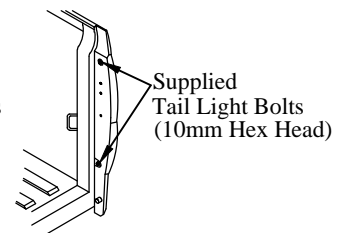

Figure 9: Replacement tail light bolts.
2. **Install** the M6 x 1.00 x 16 bolts (T-500 Bolt Kit) into the factory tail light screw locations (Figure 9).